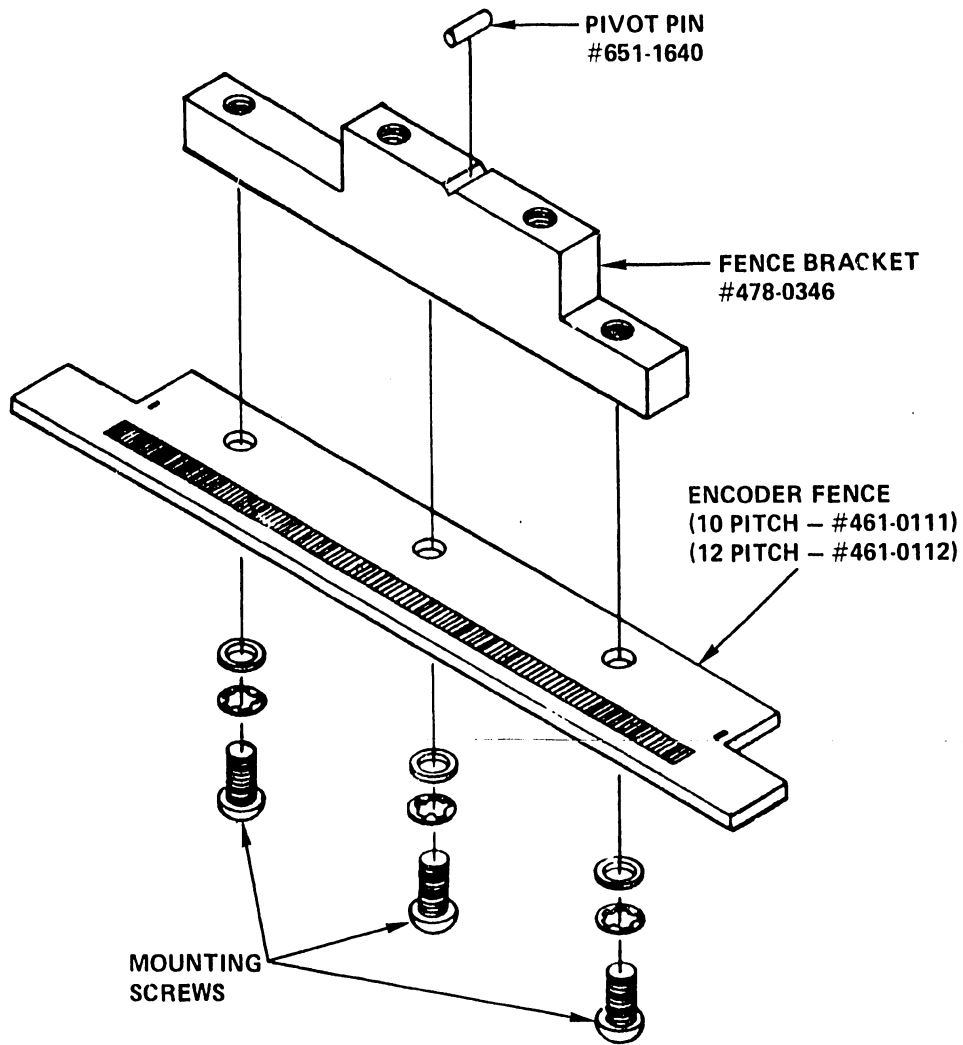

Figure 5-29. Encoder Fence Assembly
- 3) Remove the two Phillips head screws securing the aluminum fence bracket to the outboard bearing bracket. See Figure 5-29.